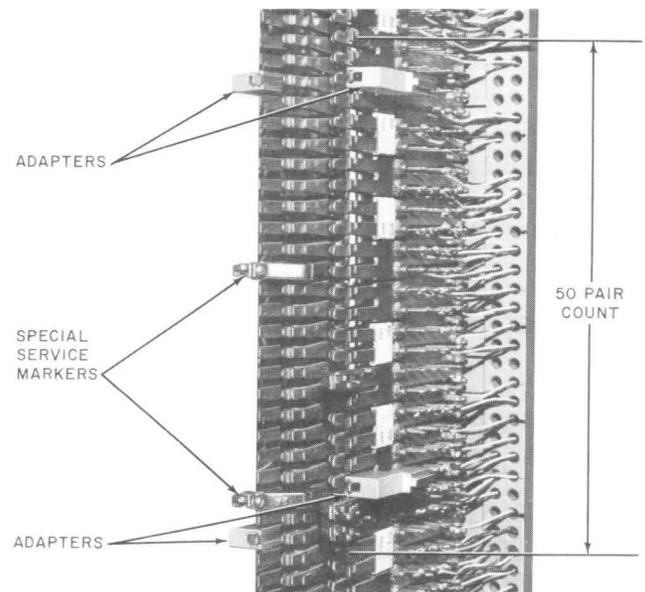

Fig. 9—Adapters Placed on 444-Type Jack
8.01 Pull the 50 plungers out to the latch position. Place four adapters on jacks, in the 50-pair count to be tested, as near to the upper and lower extremes of the 50-pair count as special service markers permit. See Figure 9. Place and lock the F Test Connector on the adapters by rotating the four knurled knobs so the locking plate positioning dots are adjacent to those on the chassis. Release the latches on the plungers to make contact with the springs of the 444-type jacks. Special service